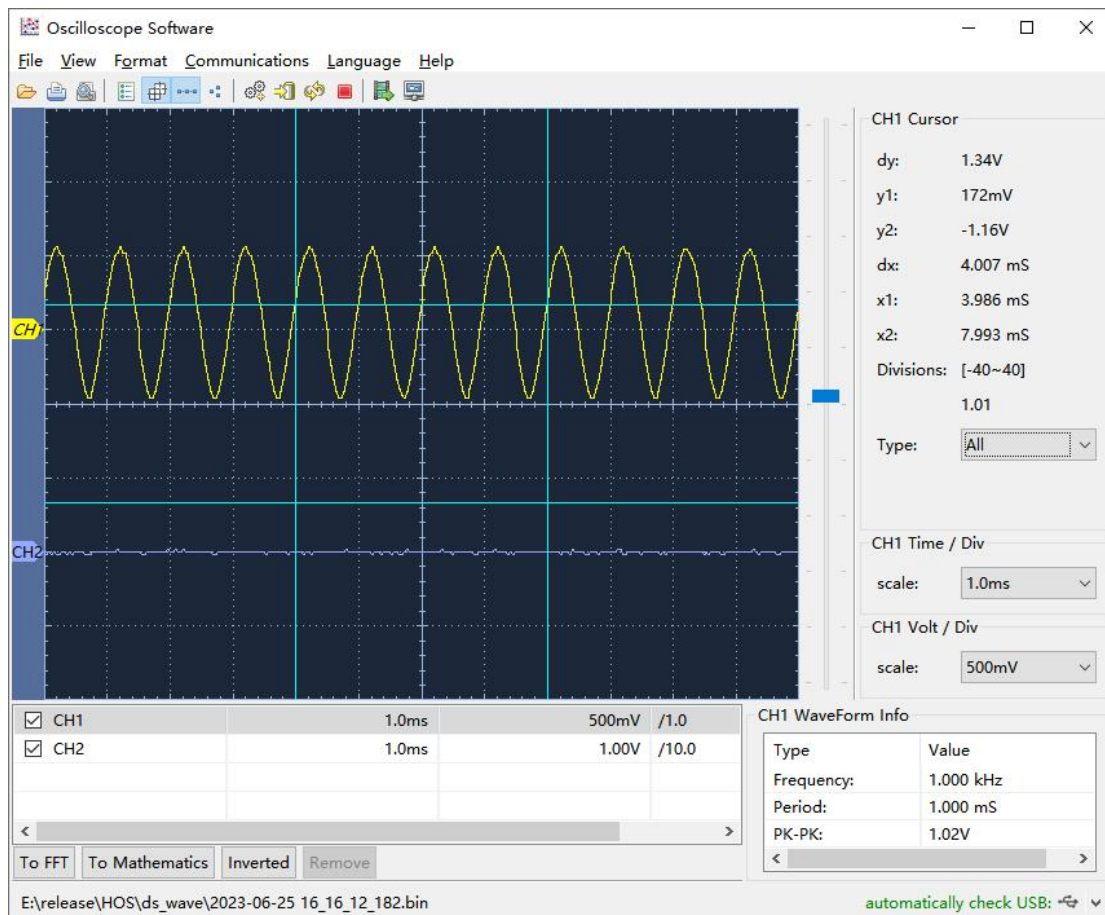
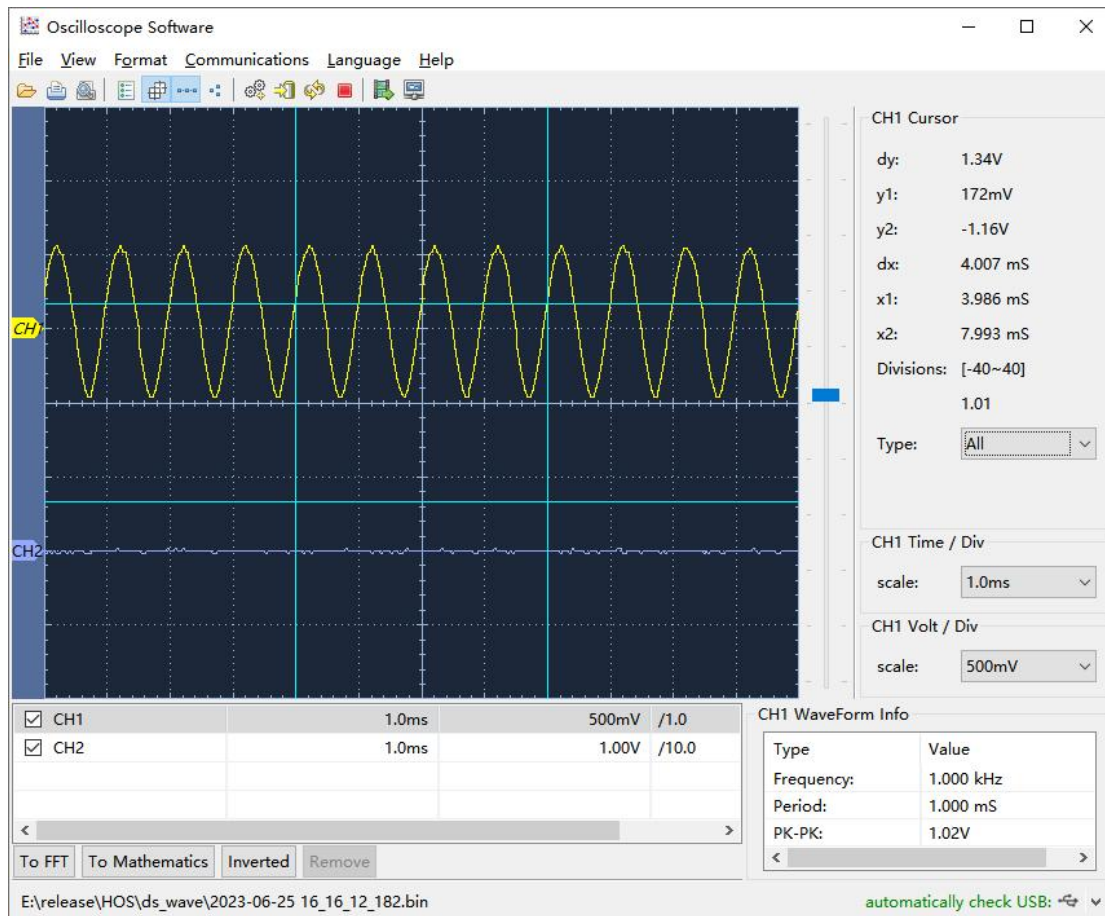

Fig 5-1-2
Fig 5-1-3
- (3) Change the color of waveform: double click "CH1" to bring out color dialogue box to change the color.
- (4) The time base division of current waveform can be shown and adjusted in such area (as Fig 5-1-2) which is the time range about one scale on the vertical line (8 scales in the following), and adjust the scale in the come box, the waveform zoom to the corresponding division with the centre scale mark as centre shaft.(Fig 5-1-3).
(4) Double lines (Fig 5-1-3): The vertical line and the horizontal line are all in the waveform area and be measured at the same time.